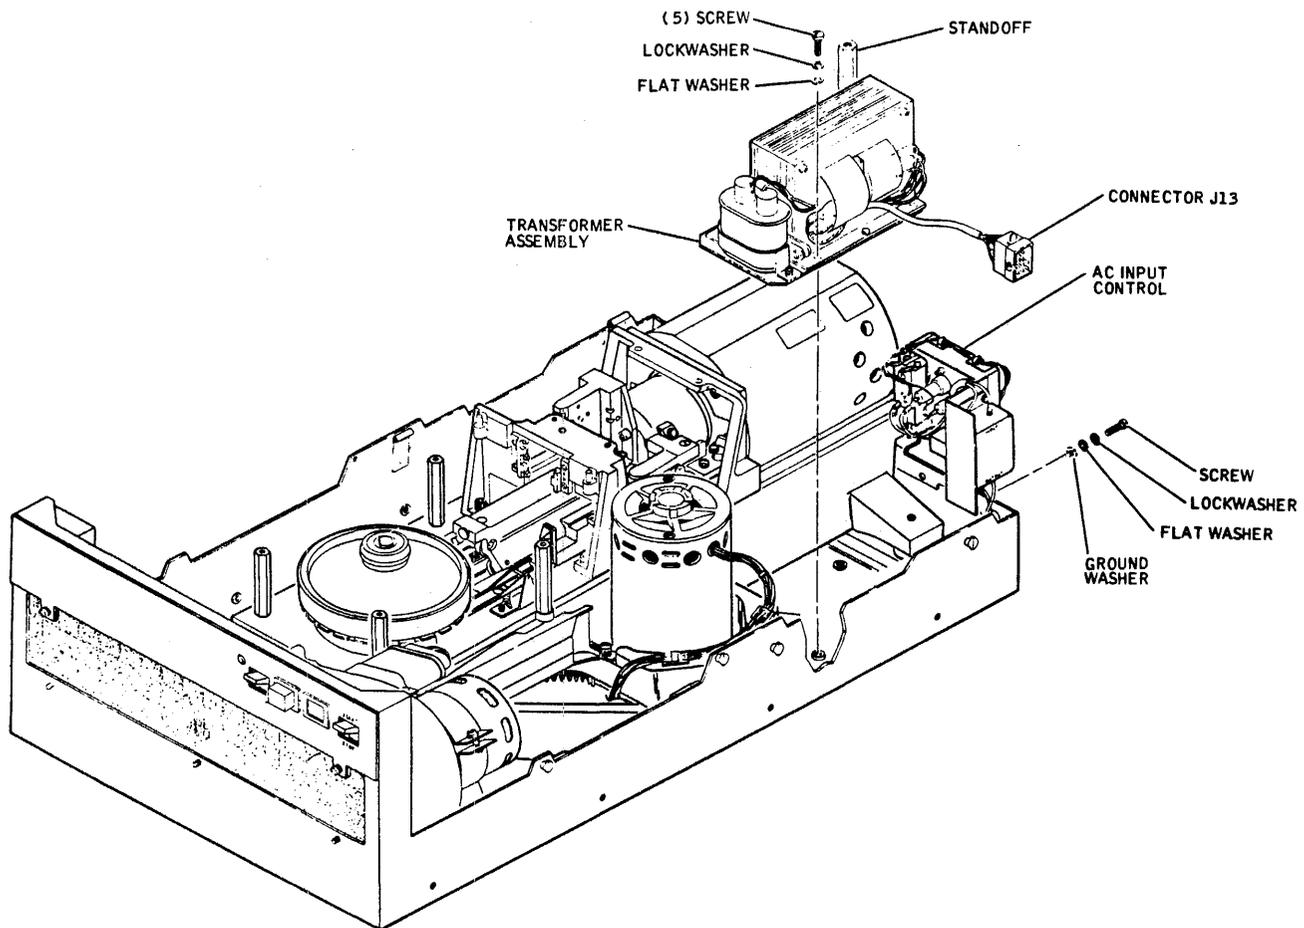

Figure 3-38. Transformer Assembly and Ac Input Control Replacement (Exploded View)
2. Loosen the screw that holds the power supply assembly in the closed position, and swing the power supply out. (See Figure 3-38.)